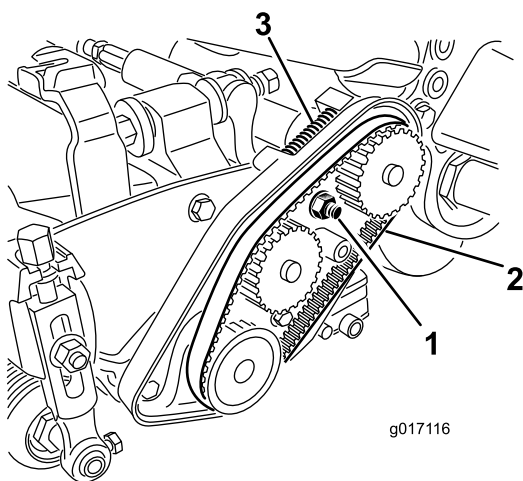

Figure 21
3. Loosen the bearing-housing nut (Figure 21).
5. Remove the belt (Figure 21).
12. Ensure that the compression spring is applying tension to the belt (Figure 21).